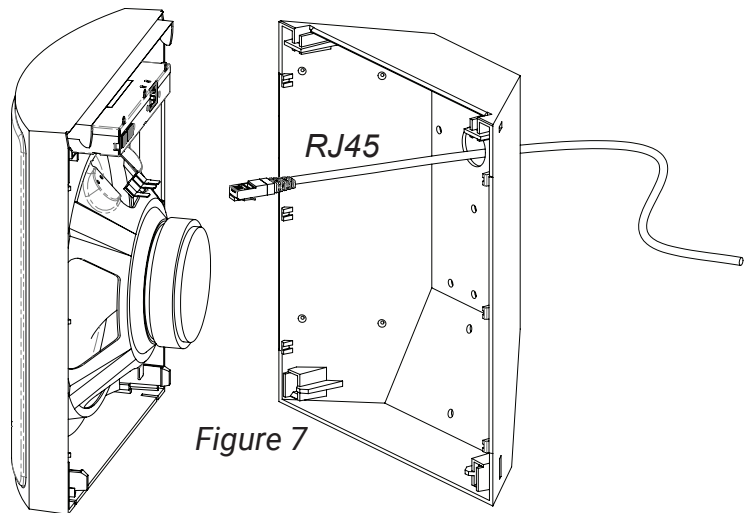

Figure 7
Step 2 - Use Category 5 or higher Ethernet cable to connect the speaker (*Figure 7*).